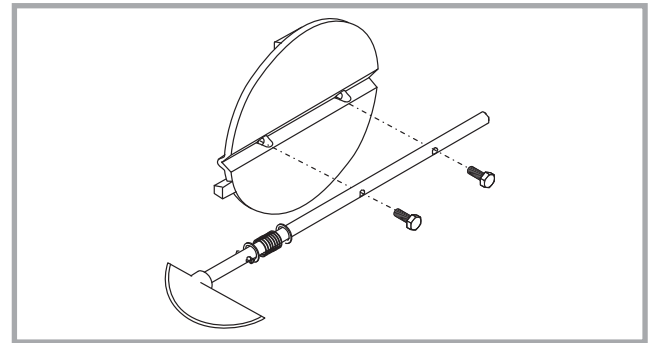

Figure 10 - Flue damper control
- Refit the flue damper control and the flue damper. The handle of the flue damper control must point upwards when the damper is closed (fig. 10).